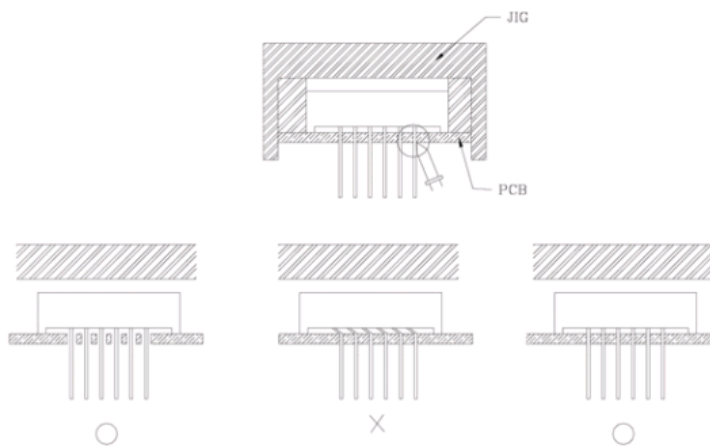

Fig.3
- 3) Similarly, when a jig is used to solder the LED to PC board, take care as much as possible to avoid steering the leads (See Fig.3).